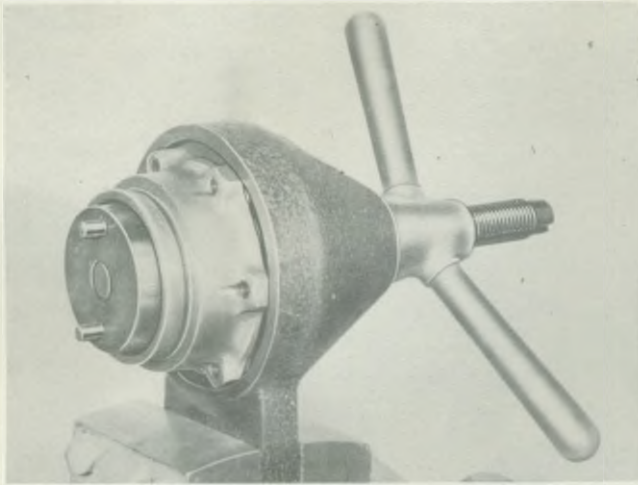

Fig. 4. Showing extraction of outer ring of wheel bearing from housing—Tool No. 20S-93
5. Extract outer ring of bearing from housing as shown in Fig. 4, after first tapping out oil seal, which should be subsequently replaced.